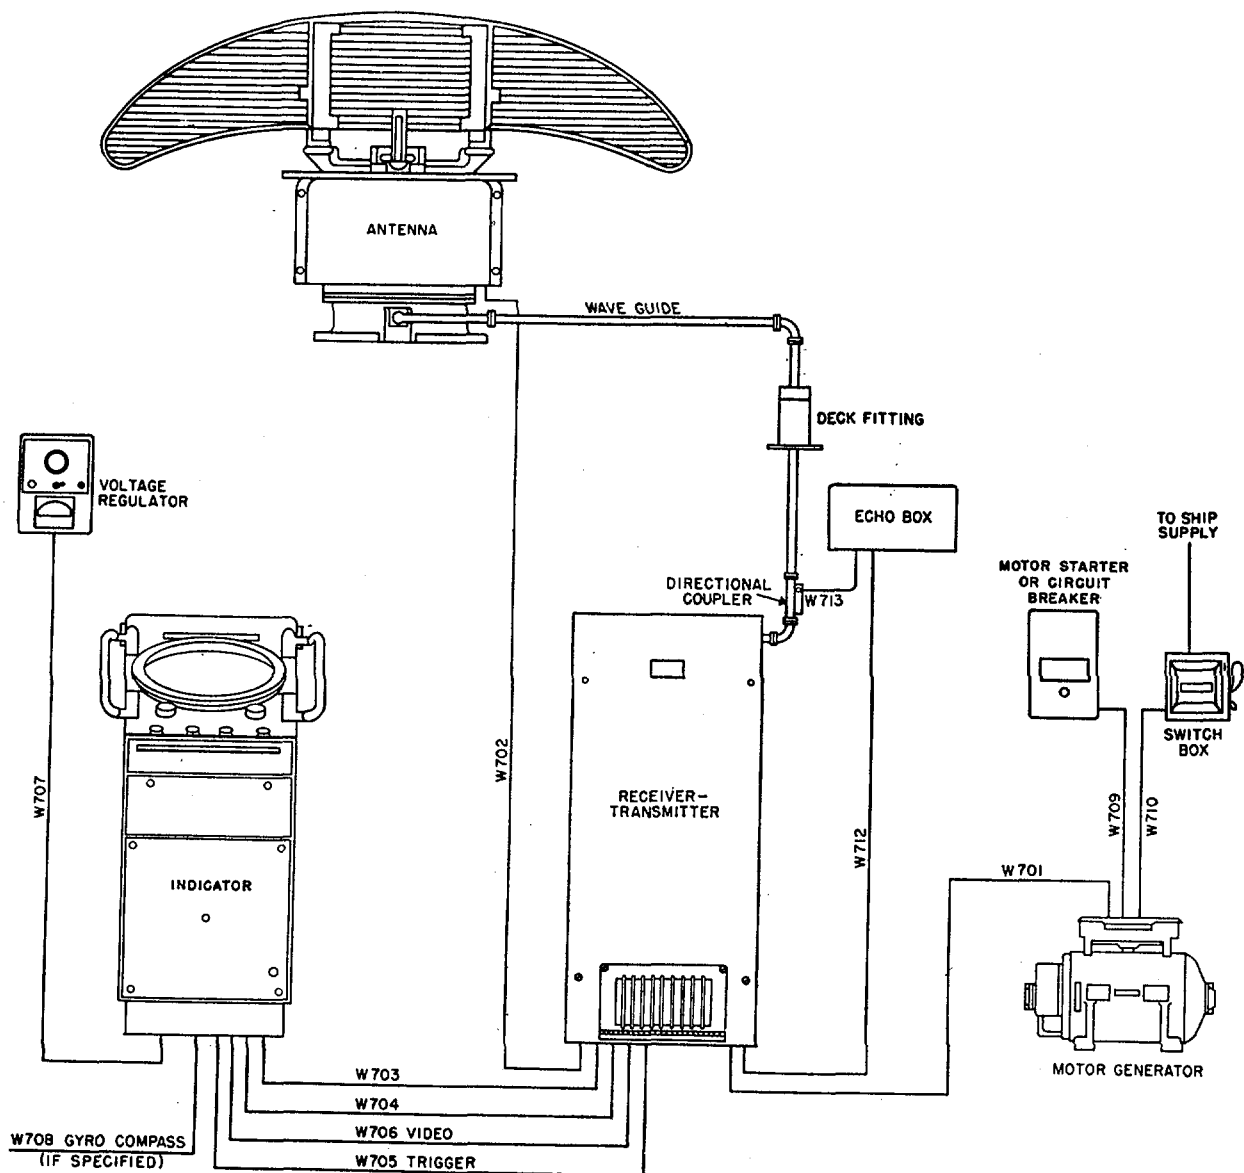

Figure 47. Radar Set AN/SPN-18(*), cabling diagram.
- (e) Prepare the individual leads and attach the terminal lugs as described in (1) above, but use a larger lug, Burndy type YAV-10.
- (10) **Cable W710.** Follow the instructions in (1) above to cut this cable. Allow the following lengths for insulated leads and prepare the leads in the following manner:
- (11) **Cable W711.** The instructions in (10) above, also apply to this cable: the length of insulated lead required for connections to the switch box is 3 inches, and the heavier lug must be soldered to the leads. However, the required insulated conductor lengths for connections to the ship power supply must be determined at the time of installation, and the terminal connectors on that end of the cable must be whatever type is suitable.
- (12) **Cable W712.** (a) The instructions in (1) above also apply to cable W712, except for the lengths of the insulated leads. These lengths include 10 inches for connections to TB801 and TB802 in the receiver-transmitter, and 4 inches for connections to TB101 in the echo box.
c. **Installation.** Each cable must be installed in accordance with approved shipboard wiring practices. Wherever it is necessary to run a cable through a deck or bulkhead, follow approved procedures by running the cable along channels and through conduits and kickpipes as required. Also, be sure that all cable clamping and waterproofing requirements are complied with, particularly when a cable is run through decks and bulkheads (fig. 47).